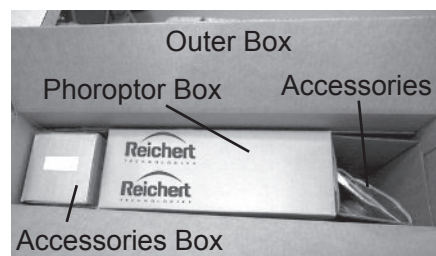

Figure IS-2 Inner Box
3. Remove the accessories and the accessories box from the sides of the container. Refer to Figure IS-2.
4. Pull the inner box containing the Phoroptor up and out of the outer box. Refer to Figure IS-2.